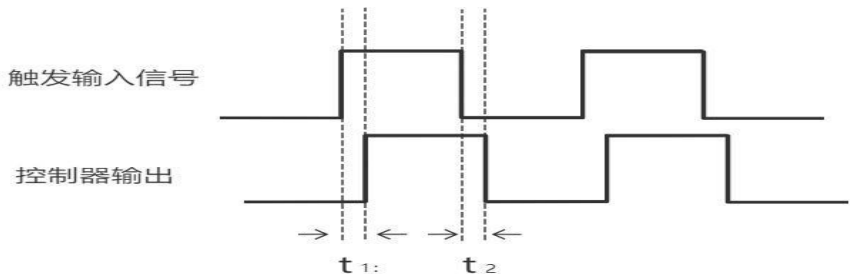

Figure 7 Timing Diagram for Constant Off Mode
**Constant Off Mode:** When the controller's trigger input signal is valid, the light turns on. The timing relationship (taking high level validity as an example) is shown in Figure 7: